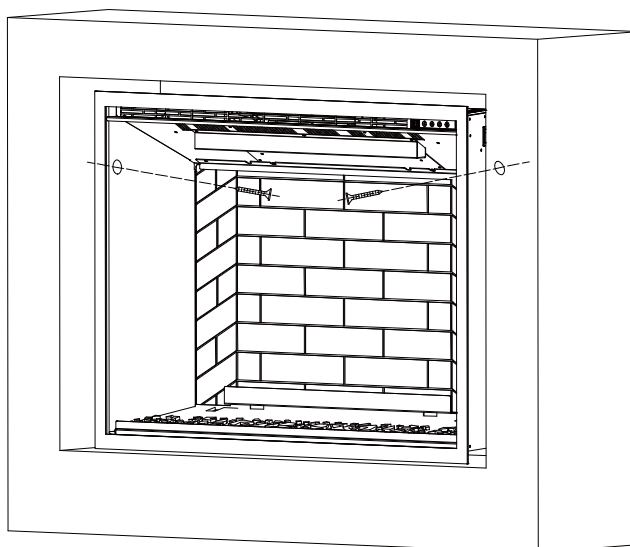

Figure. 3-3
- ③ Secure the fireplace using four wood screws (A) through the interior side mounting holes shown (Fig. 3-3).
- ④ Install the desired ember bed media into the ember bed. Reinstall the decorative side brick panels. Reinstall the front glass panel (See ember bed media installation section for details.)